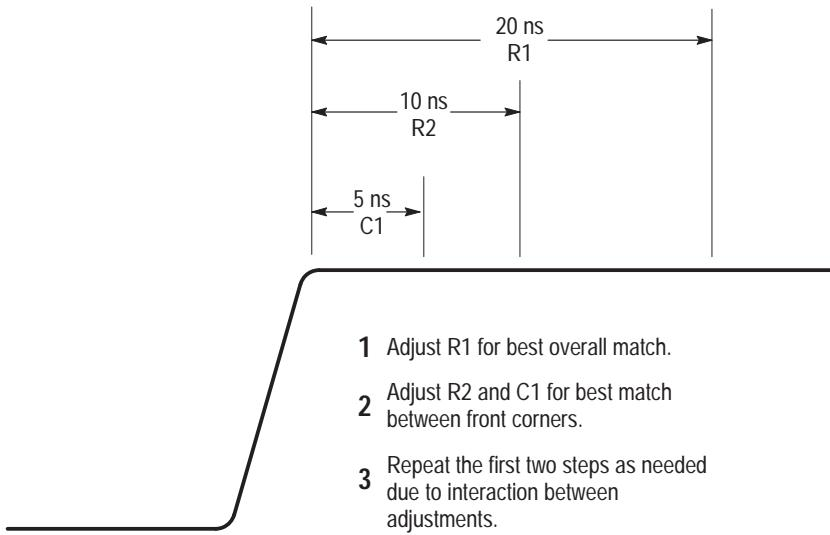

Figure 5-10: Adjustments versus front-corner response
- See Figure 5-10 to see the areas on the front corner that the various adjustments affect.